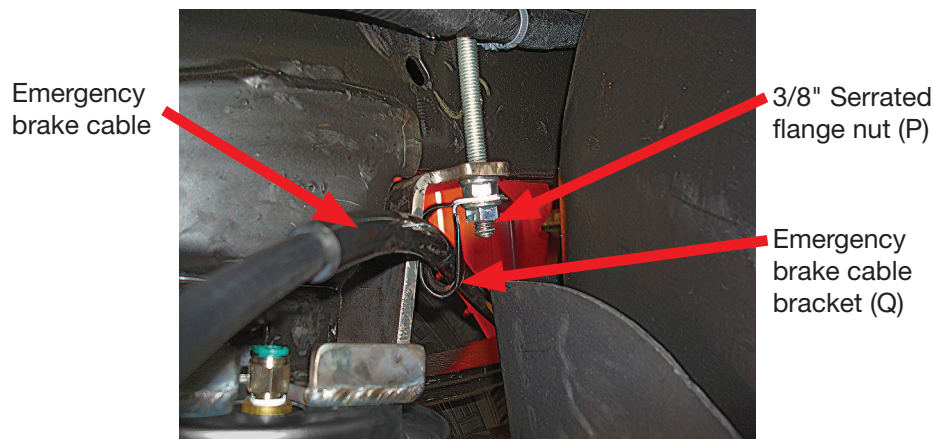

Fig. 13
1. Attach the emergency brake cable removed in the *Prepare the Vehicle* section with the emergency brake cable bracket (Q) and 3/8" serrated flange lock nut (P) (Fig. 13). Use the inside forward leg of the U-bolt on the driver's (left) side for the attachment. Tighten securely.